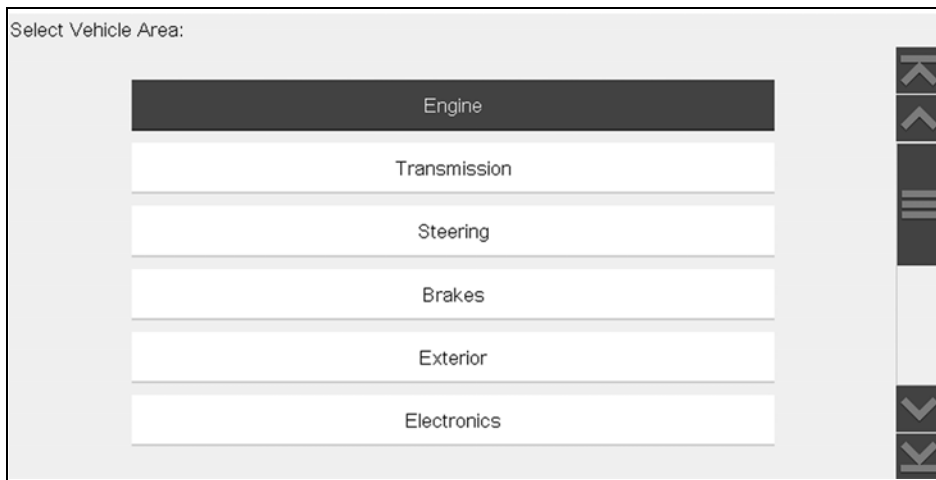

Figure 8-5 Vehicle Area Menu
2. Select a vehicle area, (e.g. **Engine, Transmission, Brakes**, etc) (Figure 8-5).